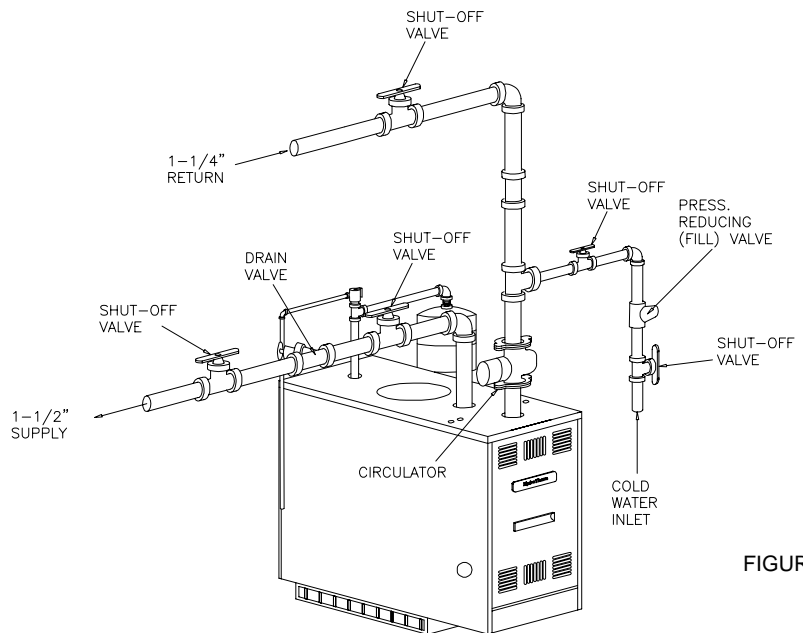

FIGURE 1.4
- **PROCEDURE B:** Install supply and return water piping. For Models EW-85, 100 & 125, supply outlet is on top-front of boiler and vent fitting assembly tapping is at top-rear of boiler, Figure 1.4.